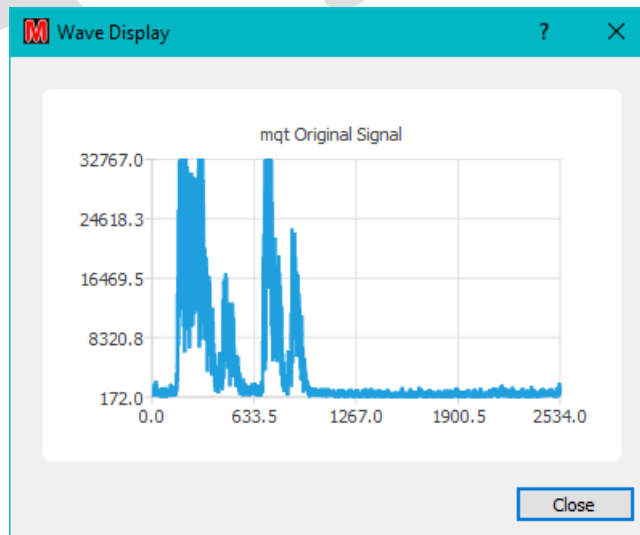

Figure 125 –Output displayed by the SHOW button
- “**Show**” provides a spectrum display of the recorded message(Figure 125)